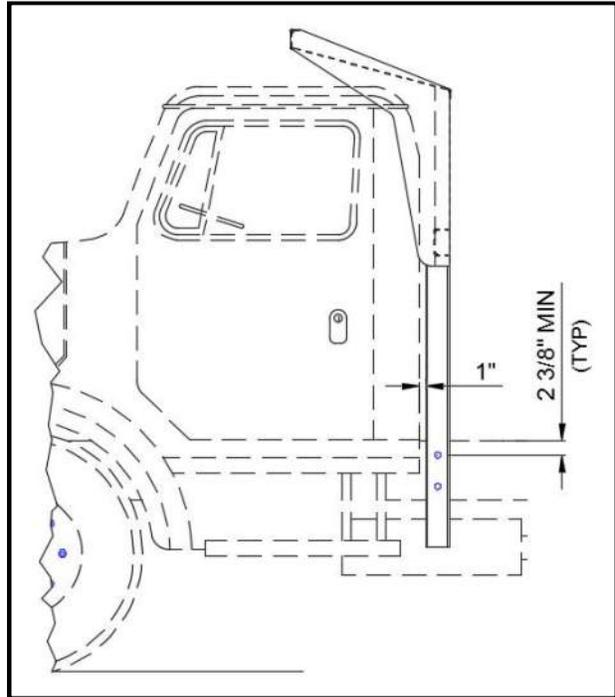

Figure 1
3. Determine location for mounting holes. Mounting holes should not be located within 2 3/8" of the truck frame edge (see Figure 1). Drill $\text{\O}21/32$ " mount holes through cab guard channels.